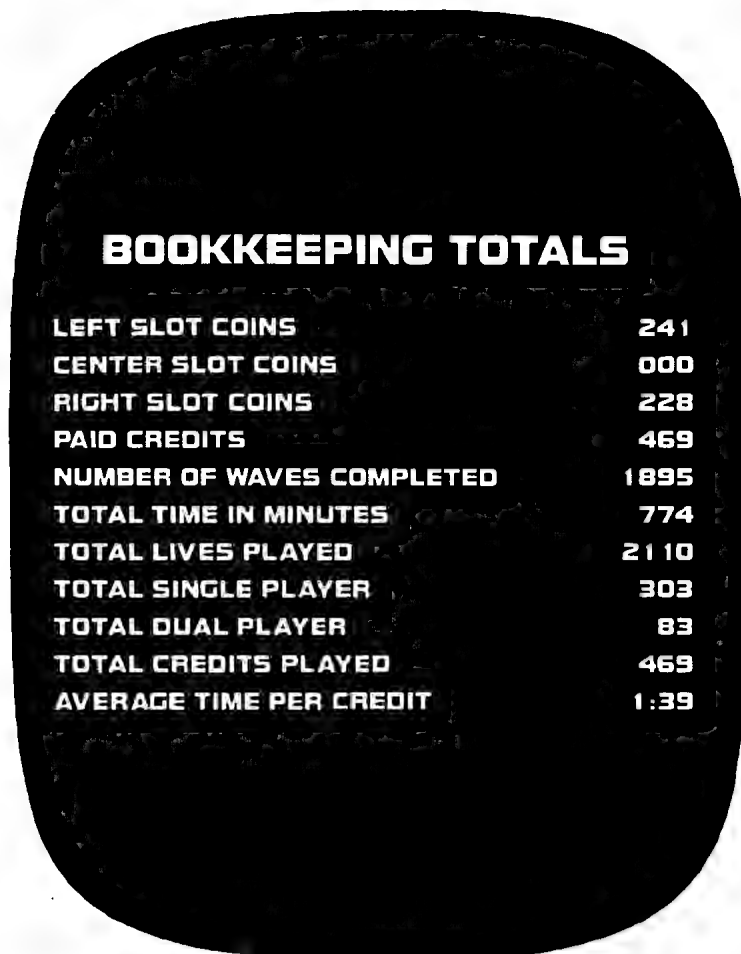

Figure 2. Bookkeeping display
3. The bookkeeping and evaluation totals appear on the CRT as in Figure 2.